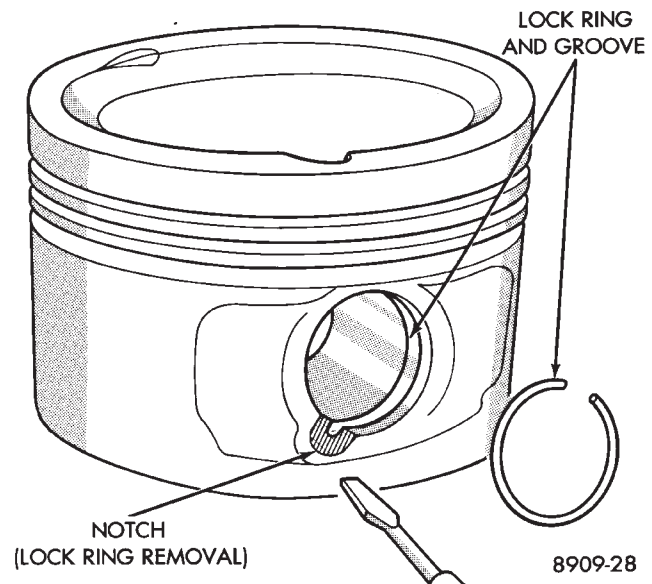

Fig. 10 Piston Pin Lock Ring Removal Notch—Turbo III Engine
(1) Carefully, remove piston pin lock rings from piston, using a small screwdriver in removal notch (Fig. 10).
(2) Discard used lock ring.
(3) Following lock ring removal, attempt to slide pin out of piston. If pin does not slide out freely by hand;
(4) Slide out piston pin to complete disassembly.